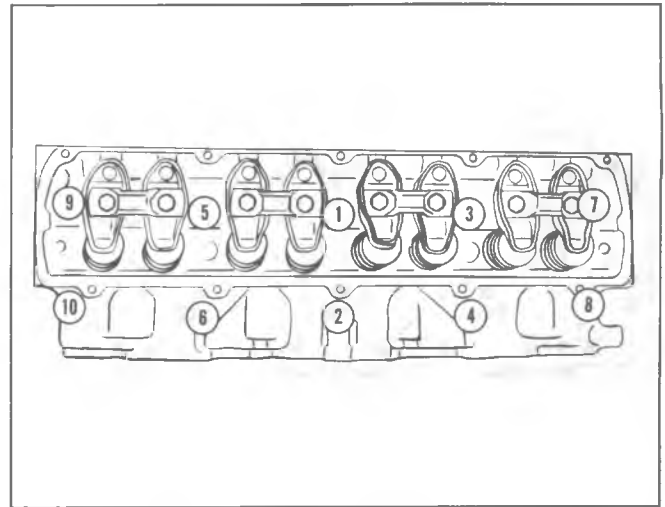

Fig. 6A6-47--Cylinder Head Torque Sequence
4. Remove valves. Keep valves separated so they can be installed in their original locations. (Fig. 6A6-49).